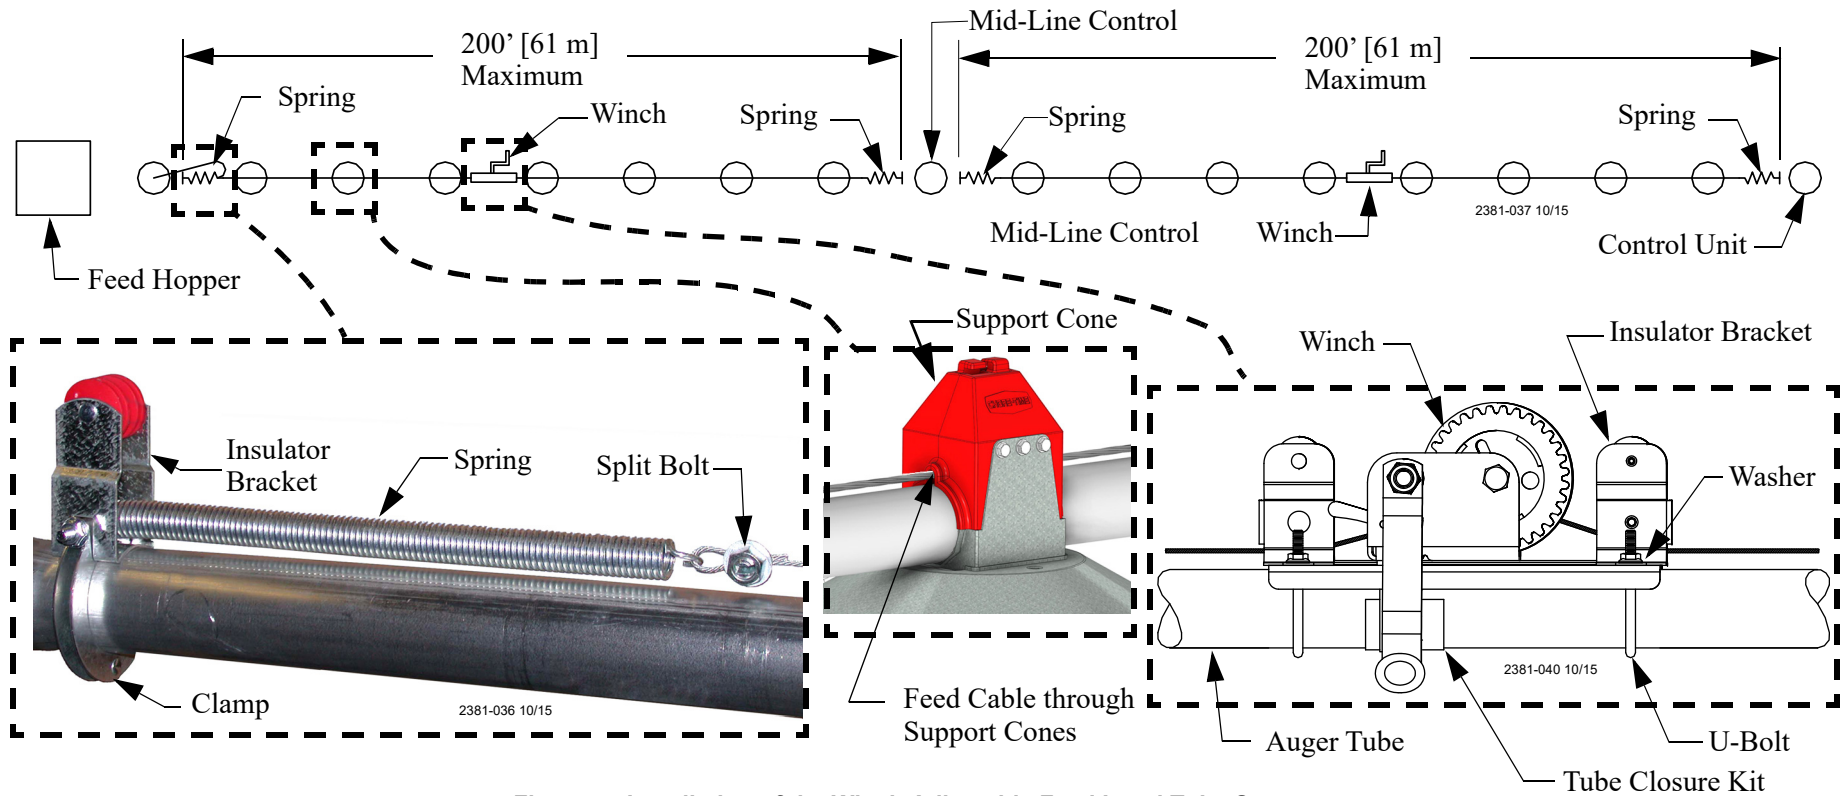

Figure 47. Installation of the Winch Adjustable Feed Level Tube System
Chore-Time's Adult Turkey Feeder can be equipped to provide Winch adjustable Feed Level Cones. Existing systems can be (easily) upgraded to include Feed Level Cone winching components. The Feed Level Cones are adjusted using a Winch and cable. The maximum line length for each Winch is 200' (61 m). The Winch should be located in the middle of the line of Feeders See **Figure 47**.
1. Install a Spring at one end of the Feeder Line and attach the end of the Cable to it as shown in **Figure 47**.
2. Use two U-bolts to fasten the Winch to the Feeder Line Tube, See **Figure 47**. The Winch should be placed in the center of the line of Feed Level Cones it will adjust, as shown in **Figure 47**.